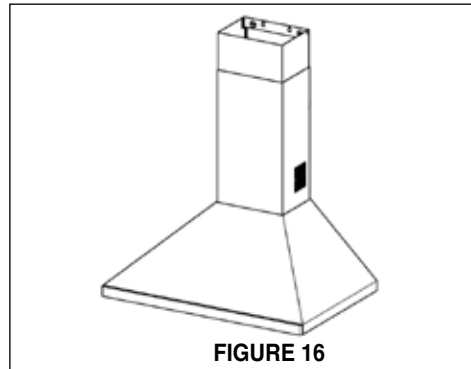

FIGURE 16
3. Install the lower chimney (**FIGURE 16**), slightly spread the sides of the cover apart and hook them behind the upper chimney and the wall. Slide the lower chimney down to fit securely into the top of the range hood.